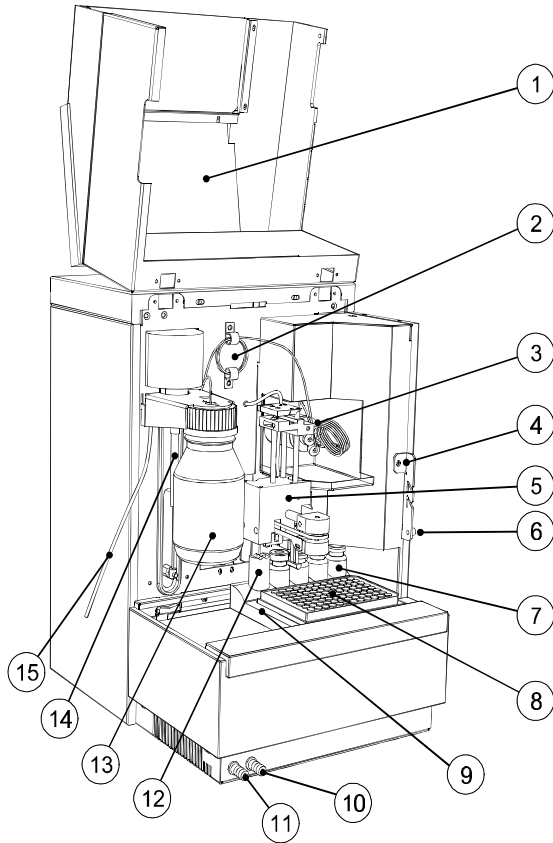

Figure 1.1 Front view of the Endurance
Loosen the screw at the right-hand side of the cover (figure 1.1, number 6) and lift the cover to execute the procedures described in this chapter.
- Syringe waste: put the end of the syringe waste tube (see figure 1.1, number 15) in a bottle placed next to the Endurance.
- Drain wash-position: connect the hose to the drain wash connector of the Endurance (see figure 1.1, number 10); place the other end of the hose in a bottle placed on the floor. Through this drain all liquid dispensed to waste at the back of the plate is removed.
- Condensed water and leakage: connect the hose to the drain port of the Endurance (see figure 1.1, number 11). Place the other end of the hose in a waste container on the floor. Through this hose all leakage solvents and condensed water (if Peltier cooling is installed) are drained.